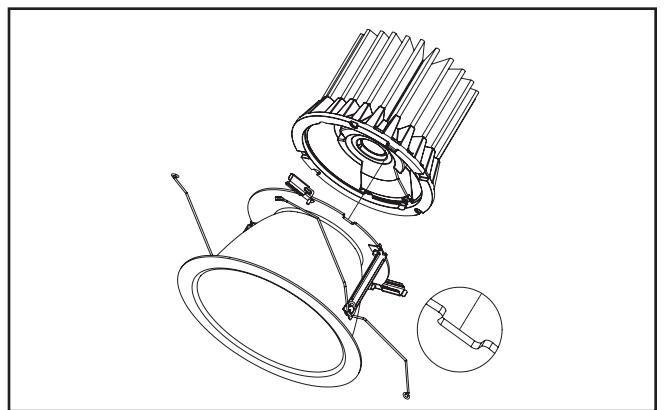

Figure 7
3. Insert LED engine on to trim assembly. Align post on LED engine with slot on trim assembly. (Figure 7)